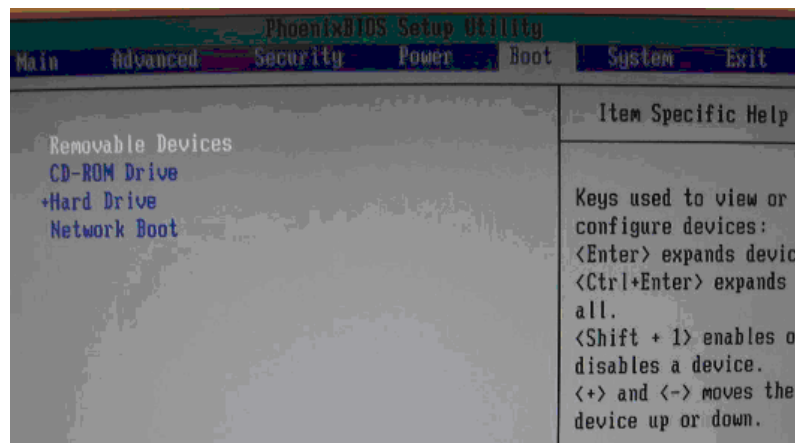

Figure 1-11. BIOS Boot Menu
8. Use the arrow keys to highlight the **Boot** menu option. The "Boot" screen displays "Removable Devices", "CD-ROM Drive", "+Hard Drive", and "Network Boot" in some order (Figure 1-11).